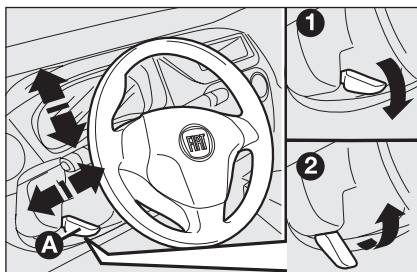

fig. 36
- ☐ release the lever **A**-fig. 36 pushing it forwards (position 1);